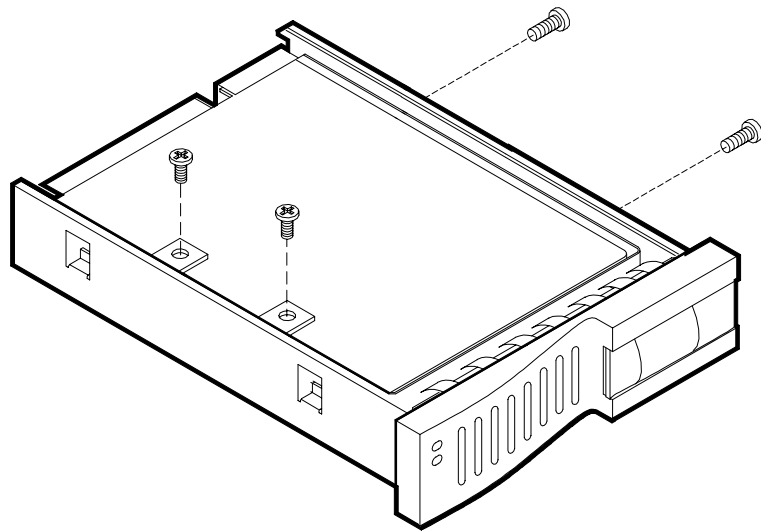

Figure 4-3. Securing the Drive in the Carrier
4. Remove the hard disk drive from the disk carrier by removing the four screws. See Figure 4-3.
7. Install the drive on the drive carrier (Figure 4-3).